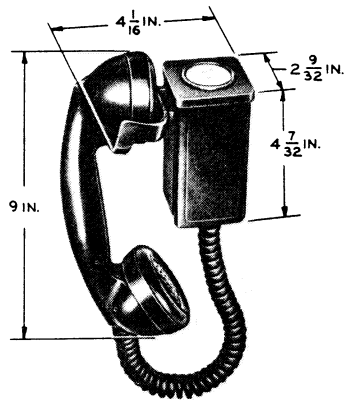

Fig. 6 — Manual Hang-up G-type Set
5.04 The 211J, 211L, and 212L hang-up hand telephone sets, equipped with the G-type mounting and G-type handset, are furnished with a chromium plated handset hook, but otherwise are similar in external appearance to the hand telephone sets shown in Fig. 6 and 7. These hand telephone sets are designed to be used with the 685- and 686-type subscriber sets.